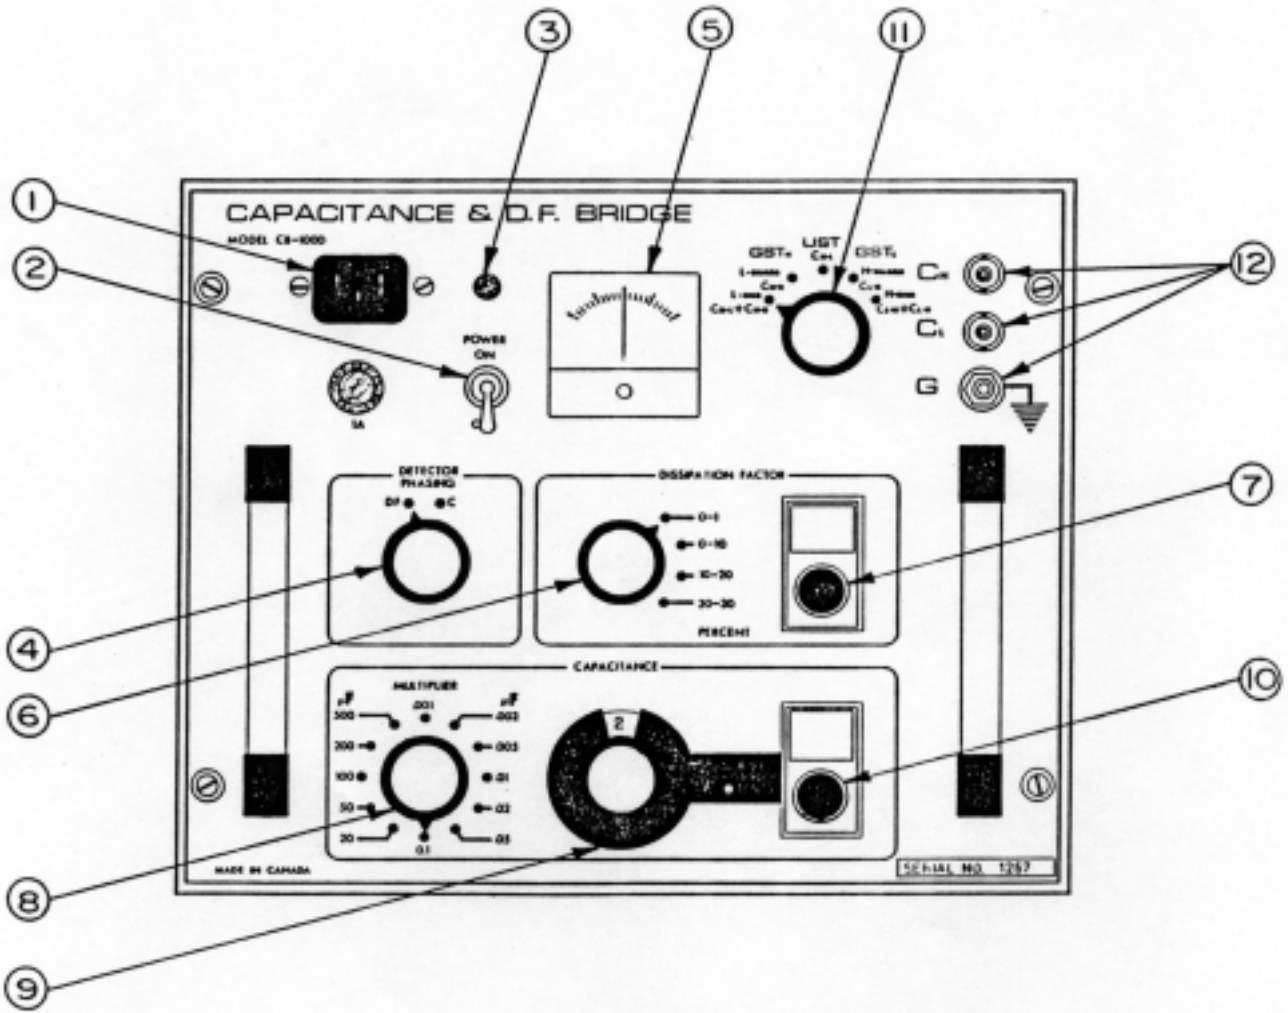

FIGURE 1 - PANEL CONTROLS AND OPERATING FUNCTIONS
This section details and describes the operating features of the CB100 and is keyed in Figure 1 (next page).
2. Select UST-GST switch position (Figure 1, 11) for required position.